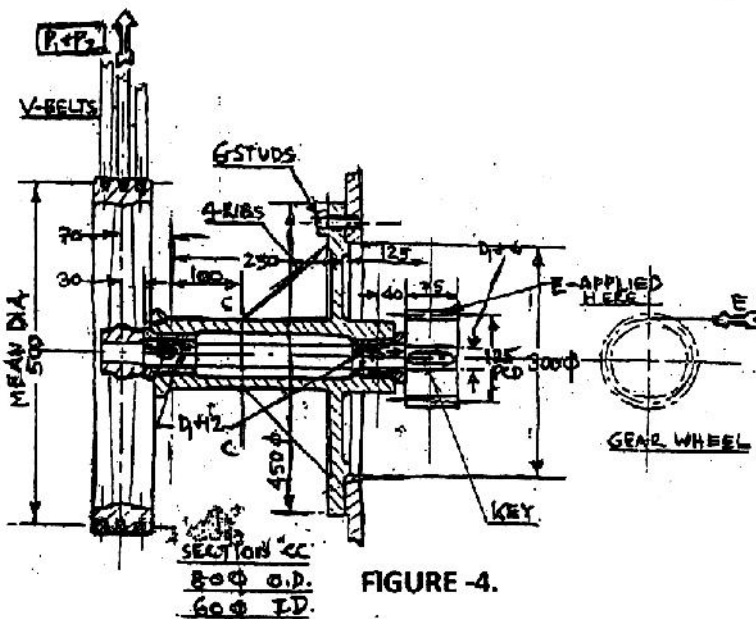

FIGURE -4.
11. A **V-Belt pulley** and gear wheel bracket shown in **FIGURE- 4**, transmits **9.5HP** at **300 r.p.m**. The belt tensions are **P₁** and **P₂**. The direction of the total belt pull (**P₁ + P₂**) is as indicated. Take the **tangential force 'E'** on the gear wheel as acting at right angles to the total belt pull and neglect the other actions. The co-efficient of friction between belt and pulley material is **0.20**, the V-groove has an inclined angle of **40°**, the wrapping angle is **155°**.